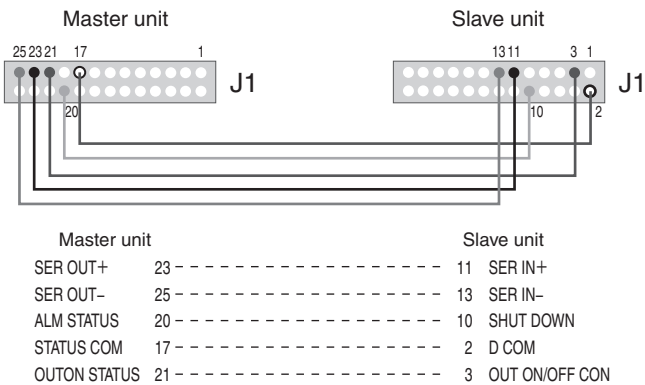

Fig.5-2 Connection for series operation
By connecting ALM STATUS of the master unit and SHUT DOWN of the slave units as shown in Fig.5-2, the OUTPUT or POWER switch of the entire system can be turned off when an alarm on the master unit is activated.
For master-slave series operation, two units are connected as shown in Fig.5-2.
2. Connect the J1 connectors on the rear panel as shown in Fig.5-2.